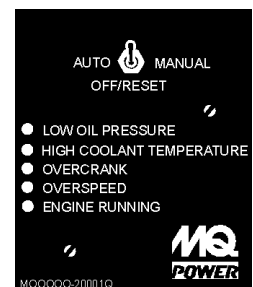

Figure 44. Engine Running LED (ON)
5. Verify that the **Engine Running** status LED on the MPEC unit (Figure 44) is **ON** (lit) after the engine has been started.